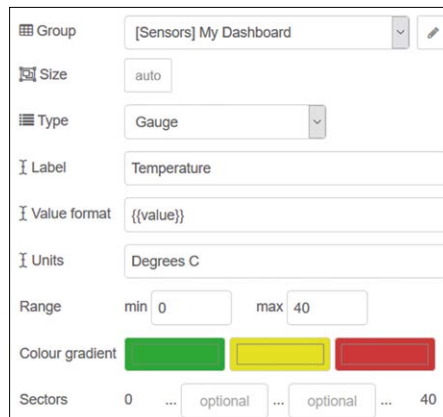

Figure 8.5 Configure the gauge node
- Configure the **gauge** node as shown in Figure 8.5. Here, the **Label** is set to Temperature, **Units** to Degrees C, **min** value to 0 and the **max** value to 40. Click **Done**